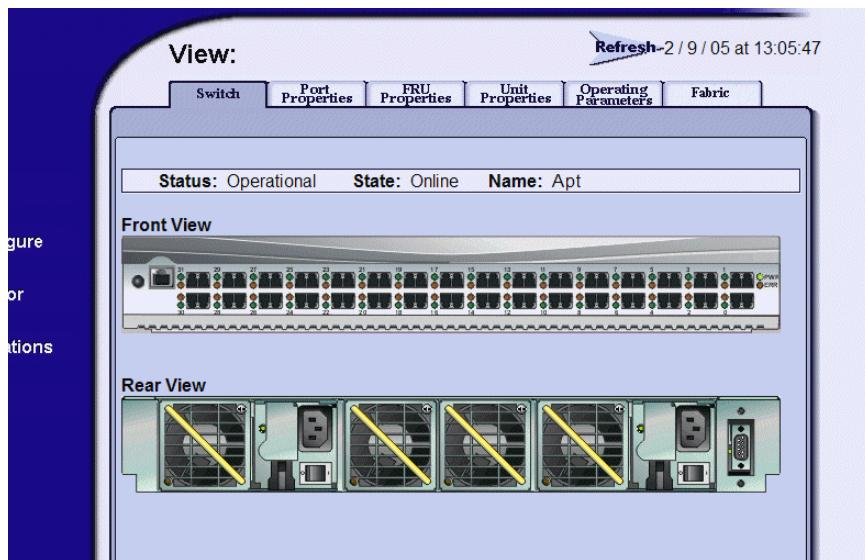

Figure 41 Embedded Web Server interface—View window
5. Click **OK**. The Embedded Web Server interface opens with the View window displayed (Figure 41).